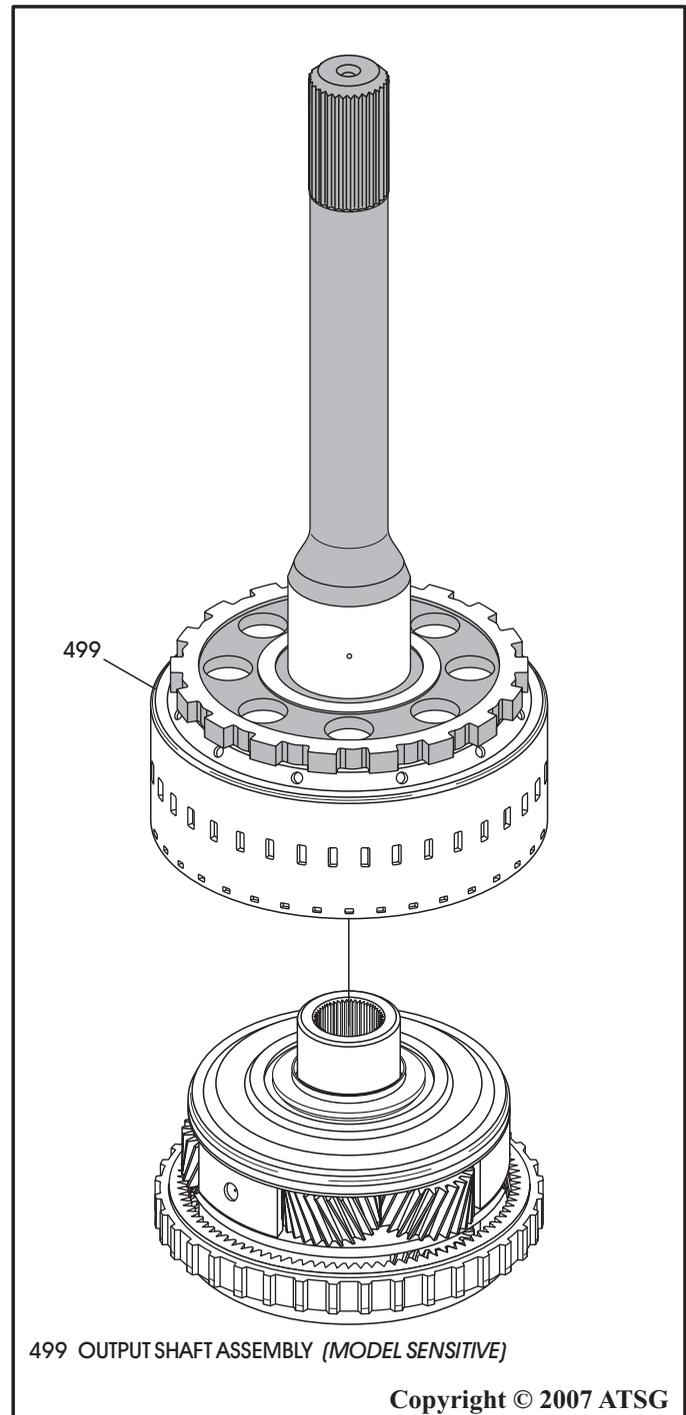

Figure 131
- Note: Should look like the illustration shown in Figure 131.**
21. Install output shaft assembly over the output carrier, as shown in Figure 131.